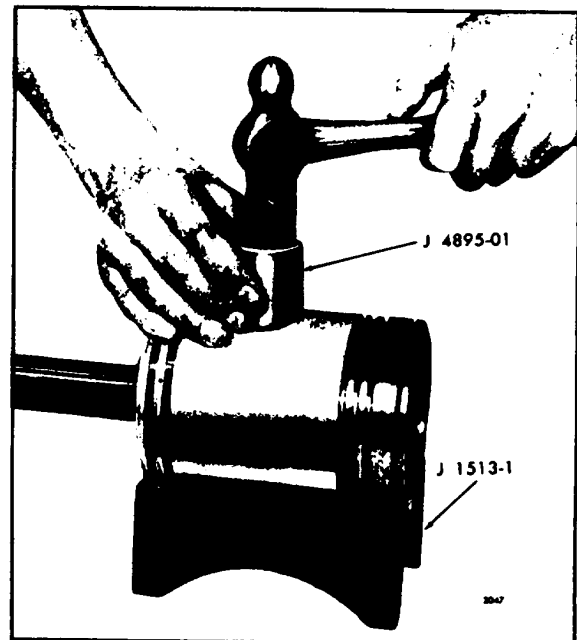

Fig. 9. - Installing Piston Pin Retainer with Tool J 4895-01
2. Rest the piston in the holding fixture (Fig. 9).